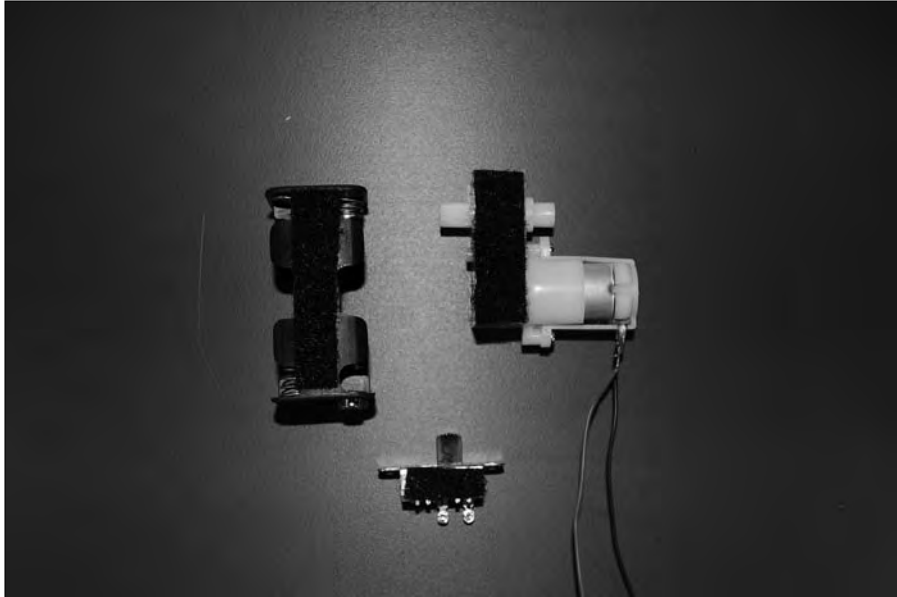

Figure 11-36:
6. Attach Velcro to the battery packs, motors, and switch, as shown in Figure 11-36.